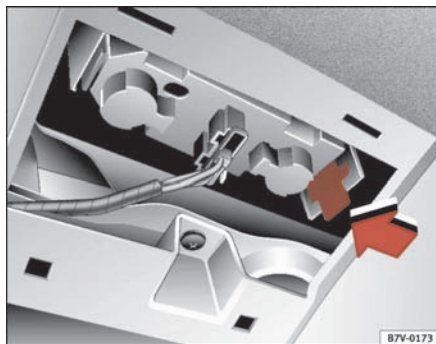

Fig. 167 Lights on tailgate
- Press the elastic tab in the direction of the arrow ⇒ fig. 167 and remove the lampholder downwards.